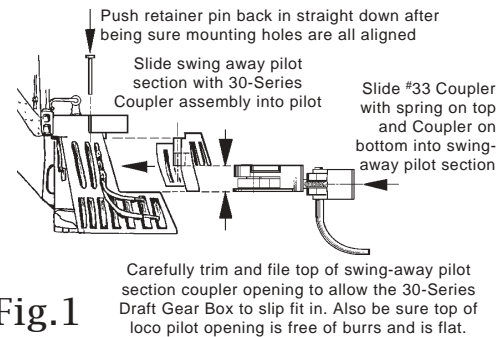

Fig. 1
1. For the pilot: Remove swing-away pilot section by pushing retaining pin out of top of pilot deck, see Fig. 1. The swing-away pilot section will have to be modified by cutting away a section to provide room for a #33 Coupler assembly. Care must be exercised to assure that the 30-Series Draft Gear Box is exactly centered in the swing-away pilot section. Also when trimming this section be careful not to break off pilot bars. The top inside of the pilot opening will need to be filed smooth and flat to allow 30-Series Draft Gear Box to slide in. Fit by trial and error, be sure there is no binding.